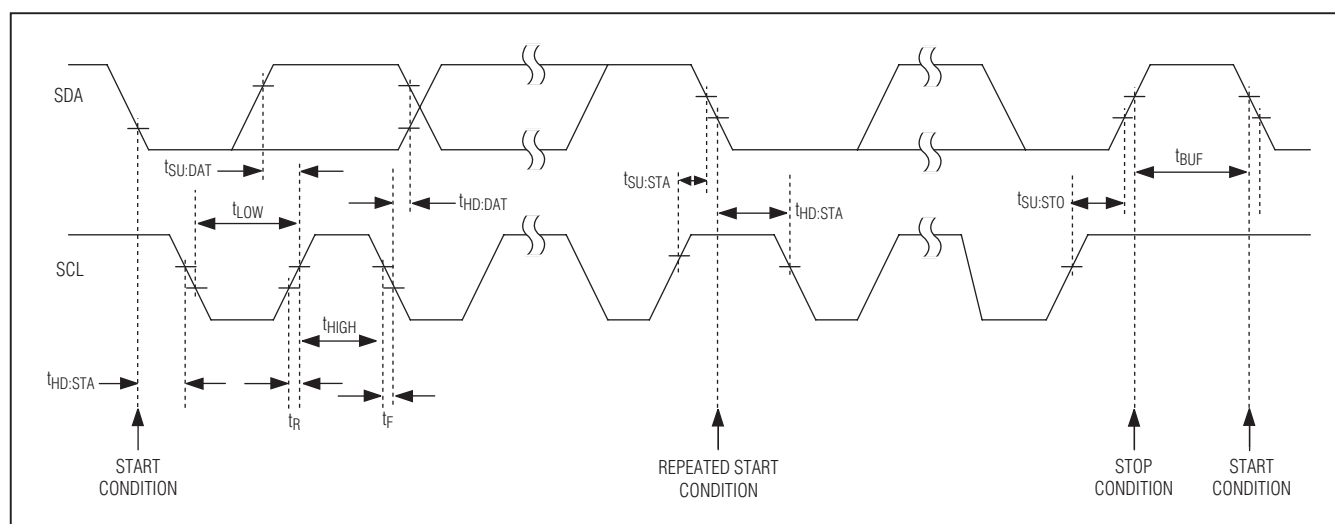

Figure 4. Serial-Interface Timing Details
The 2-wire communication is fully compatible with existing 2-wire serial interface systems; Figure 4 shows the interface timing diagram. The device is a transmit/receive slave-only device, relying upon a master device
A Repeated START (SR) condition may indicate a change of data direction on the bus. Such a change occurs when a command word is required to initiate a read operation (see Figure 4). SR may also be used when the bus master is writing to several I²C devices and does not want to relinquish control of the bus. The device serial interface supports continuous write operations with or without an SR condition separating them. Continuous read operations require SR conditions because of the change in direction of data flow.